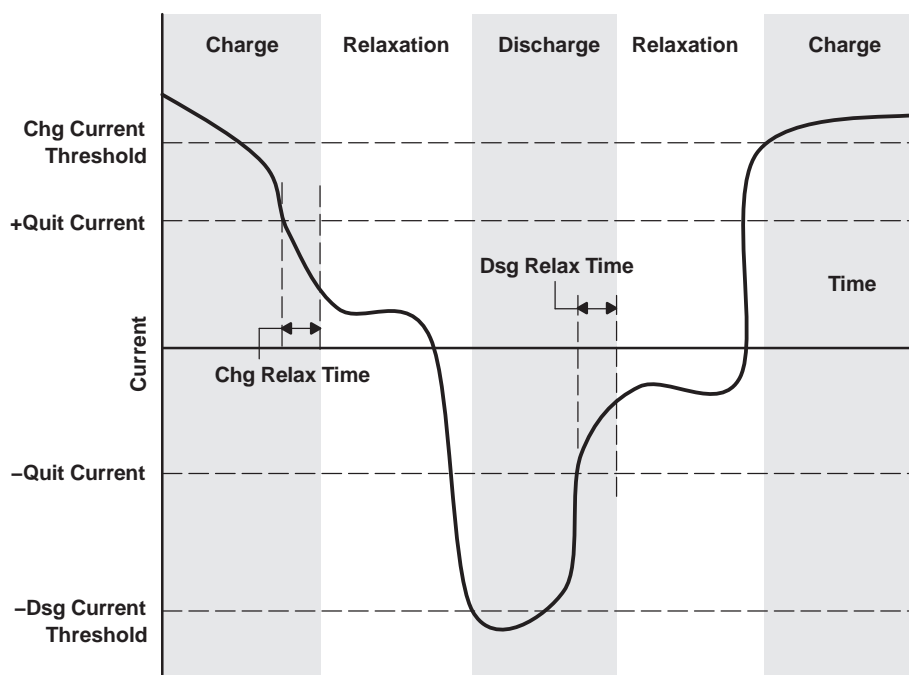

Figure 12. Example of the Algorithm Operation Mode Changes With Varying `SBS.Current()`
The algorithm differentiates between *charge*, *discharge*, and *relaxation* modes of operation. During *charge* mode, the `SBS.OperationStatus()` [DSG] bit is cleared, and during *discharge* and *relaxation* mode, it is set. Entry and exit of each mode is controlled by Data Flash (DF) parameters in the subclass Gas Gauging: Current Thresholds section as illustrated in Figure 12. Charge mode is exited, relaxation mode is entered when `SBS.Current()` goes below `DF:Quit Current` and after a `DF:Chg Relax Time` period. Discharge mode is entered when `SBS.Current()` goes below `DF:Dsg Current Threshold`. Discharge mode is exited, relaxation mode is entered when `SBS.Current()` goes above `DF:Quit Current` threshold and after a `DF:Dsg Relax Time` period. Charge mode is entered when `SBS.Current()` goes above `DF:Chg Current Threshold`.